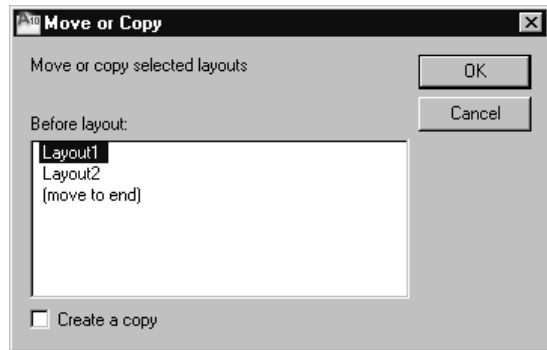

Figure 12-21 The *Move or Copy* dialog box
This option copies a layout. When you invoke this option, you will be prompted to specify the layout that has to be copied. Upon specifying the layout, you will be prompted to specify the name of the new layout. If you do not enter a name, the name of the copied layout is assumed with an incremental number in the brackets next to it. For example, Layout 1 is copied as Layout1 (2). The name of the new layout appears as a new tab next to the copied layout tab. Alternatively, you can right-click on the **Model** or **Layout** tab or on the **Quick View Layouts** tile and then choose **Move or Copy** from the shortcut menu to move or copy the selected layout; the **Move or Copy** dialog box will be displayed, see Figure 12-21. Select the layout from the **Before layout** area to move it above the previous layout and then choose the **OK** button. For example, if you want to move the Layout 2 before Layout 1, then select Layout 2 from the **Move or Copy** dialog box; the Layout 2 will be moved before Layout 1. To create a copy of the selected layout select the **Create a copy** check box.